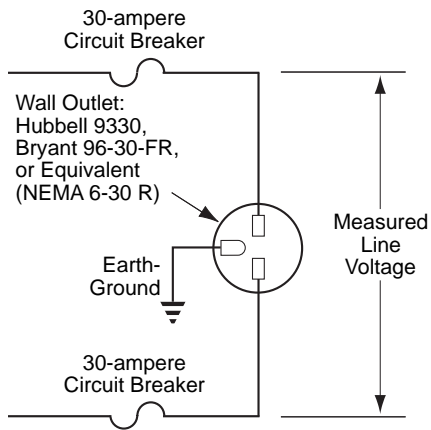
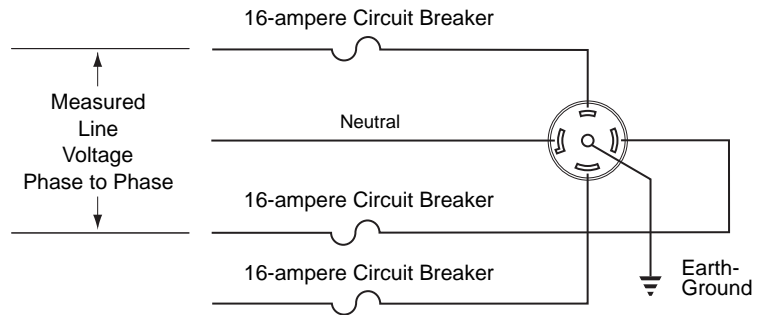

Figure 1-1. Single-Phase Electrical Requirements
Figure 1-2. Three-Phase "Y" Electrical Requirements
- Power receptacle (see Figure 1-1 or 1-2)
Figure 1-1 shows the power connection for single-phase centrifuges, including earth-ground and two power leads with 30-ampere circuit breakers. Figure 1-2 shows the power connection for three-phase centrifuges, including earth-ground and three power leads with minimum 16-ampere circuit breakers and common neutral connection. Table 1-2 contains wiring information.